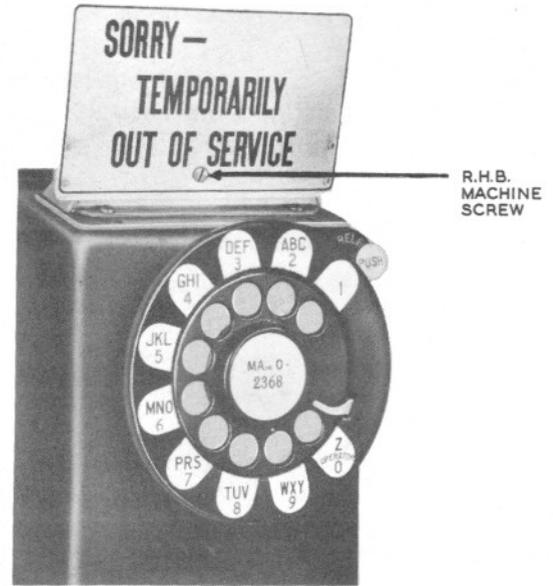

Fig. 10 — KS-7991 Sign in Place Over Coin Gauge
10.01 If coin collector is not ready for service when installation work is completed, place a SORRY—TEMPORARILY OUT OF SERVICE sign, KS-7991, so that customers will not deposit coins (see Fig. 10). When coin collector is placed